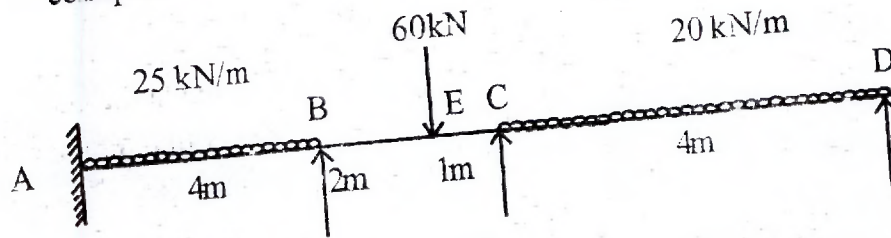

Fig. 3
- (b) Determine the uniform M_p for which the continuous beam shown in Fig. 3 should be designed. Take load factor 1.7. Also comment on the type of collapse. 10